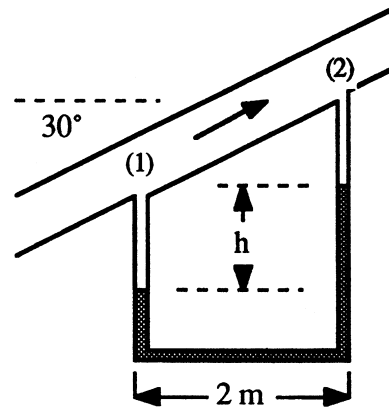

Fig. P2.35
**2.35** Water flows upward in a pipe slanted at  $30^\circ$ , as in Fig. P2.35. The mercury manometer reads  $h = 12$  cm. What is the pressure difference between points (1) and (2) in the pipe?